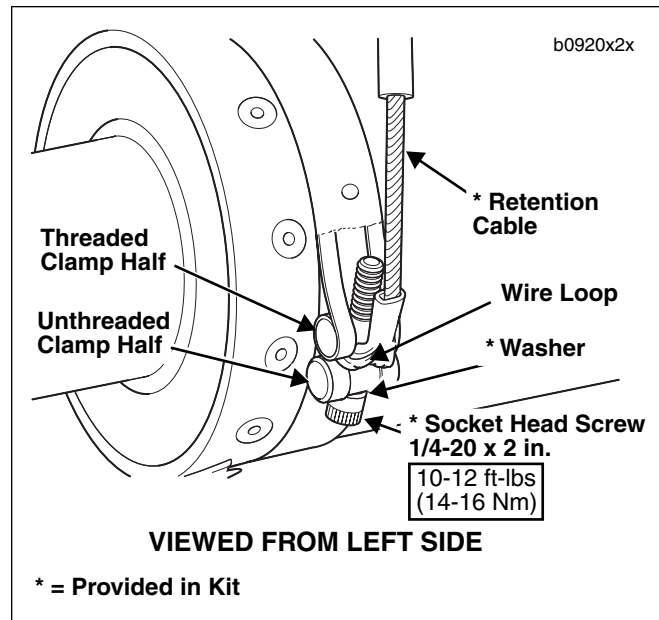
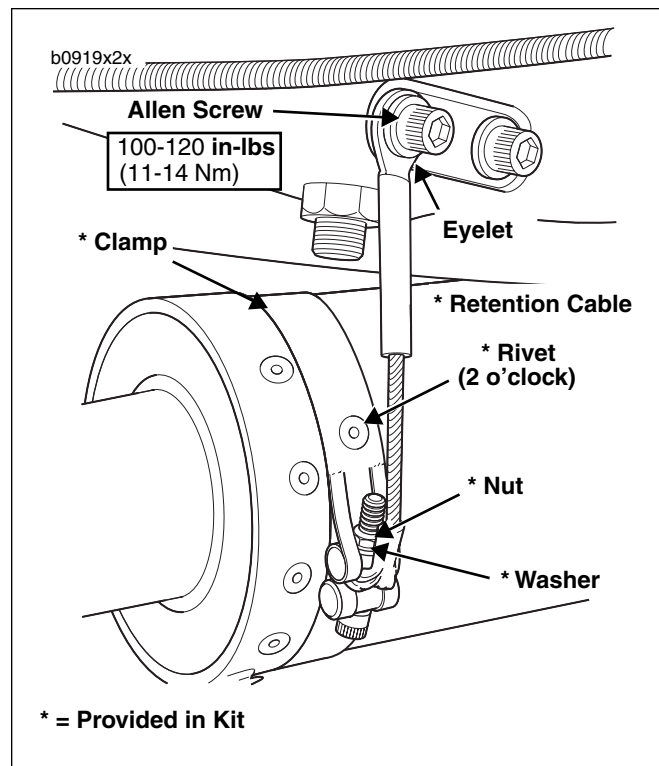

Figure 1. Installing Retention Cable and Clamp
Figure 2. Retention Cable Installed
3. See Figure 1. Using a Scotch-Brite pad, thoroughly clean front portion of muffler where clamp will be installed.
4. Inspect muffler for cracks or damage at inlet. **If muffler is cracked or damaged, STOP! Contact XL/Buell Technical Service at telephone (414) 343-4887.** You will be given a unique credit procedure, instructions and appropriate parts will be expedited to you, or available for you to order.
5. See Figure 2. Remove front allen screw on left lower side of the primary cover. Install retention cable eyelet with front allen screw finger tight. NOTE: On X1 models or models equipped with chin fairings, remove spacer between chin fairing and primary cover.
6. See Figure 2. Position **new** clamp on front of muffler so clamp hardware will be located on outboard side.
7. See Figure 1. Install **new** socket head screw and washer from bottom through unthreaded clamp half. Position retention cable wire loop between two clamp halves and finish installing socket head screw through wire loop and the threaded clamp half. NOTE: When properly installed, there should be no tension on the cable.
8. See Figure 1. Tighten clamp screw to 10-12 ft-lbs (14-16 Nm).
10. See Figure 2. Install hex nut and washer to clamp screw and tighten nut.
12. See Figure 2. Using a #11 drill bit (0.190 in.), drill through the muffler at the 2 o'clock position.
14. See Figure 2. Install retention cable eyelet to primary cover with allen screw. On X1 models or models equipped with chin fairings, remove 0.120 in (3 mm) of material from inboard (non-stepped) side of spacer with a lathe or file. Reinsert spacer between eyelet and chin fairing, stepped side outboard. Eyelet will be located between the primary cover and the spacer. Tighten allen screw to 100-120 **in-lbs** (11-14 Nm).